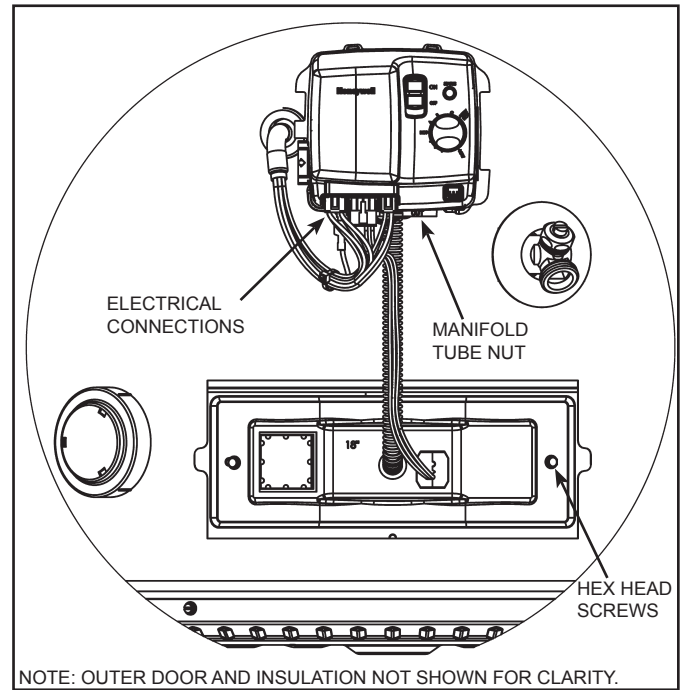
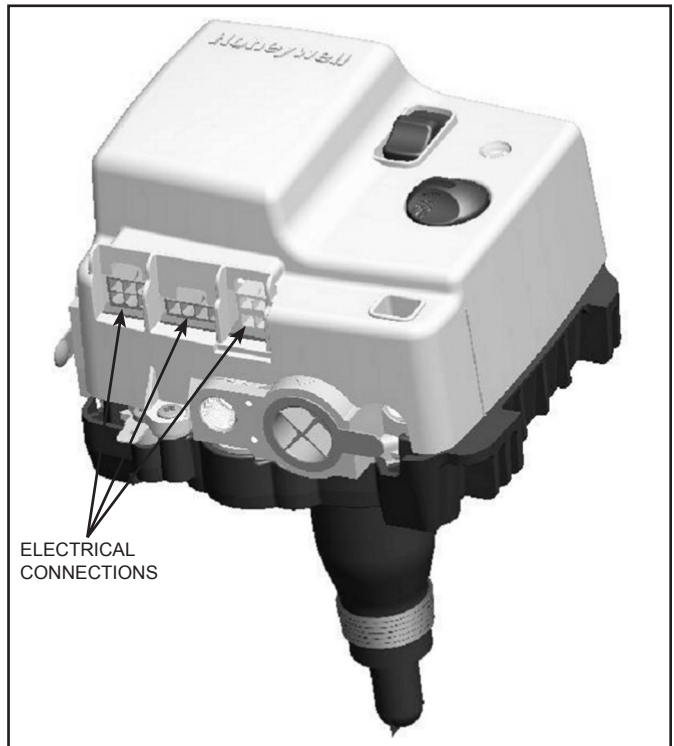
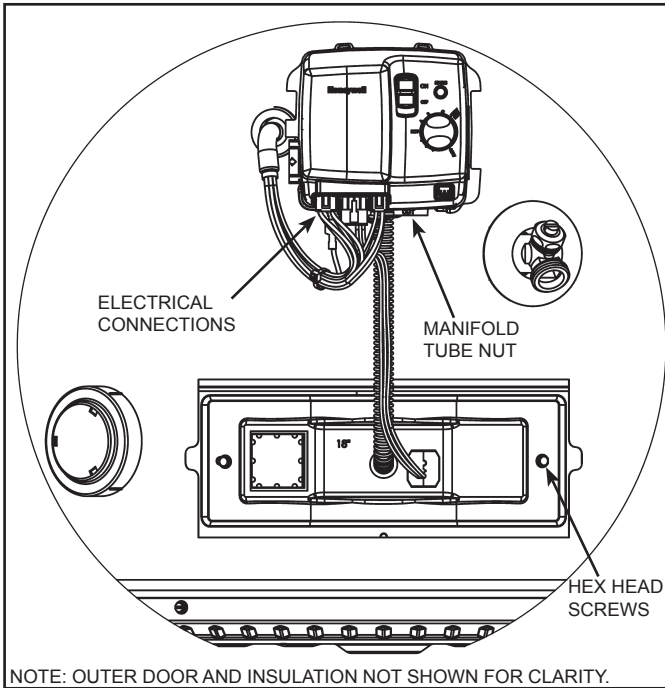

Figure 7. Electrical Connections at the Bottom of the Gas Valve
Figure 10. Electrical Connections on the Gas Valve
Figure 15. Electrical Connections at the Bottom of the Gas Valve
5. Unplug all the electrical connections from the bottom of the gas control valve/thermostat. See *Figure 7*.
6. Using a 3/4" open end wrench remove the manifold tube from the gas control valve/thermostat (turning counter-clockwise for natural gas, clockwise for LP). Grasp the manifold tube and push down slightly to free the manifold tube from the gas control valve/thermostat. See *Figure 7*.
8. Use a 1/4" nut-driver or 1/4" socket & ratchet to loosen the 2 hex head screws on the inner door so the inner door/manifold/burner assembly can be removed. See *Figure 7*.
2. After confirming no materials of any type are between door gasket and combustion chamber shield, align the screws on the inner door with the screw holes on the combustion chamber and tighten with 1/4" nut-driver or 1/4" socket & ratchet. See *Figure 7*.
**Note:** Do Not apply any thread sealant at this connection). To prevent any cross threading the manifold tube should be started by hand (turn clockwise for natural gas, counter-clockwise for LP). Upon tightening with the fingers and confirming it has not been cross threaded, tighten nut with a 3/4" open end wrench. See *Figure 7* (page 8).
- Reconnect all the electrical connections to the bottom of the gas control valve/thermostat, gently pushing each connector up until it snaps into place. See *Figure 7* and *Figure 10*.
- Reconnect all the electrical connections to the bottom of the gas control valve/thermostat, gently pushing each connector up until it snaps into place. See *Figure 10* and *Figure 11* (page 12).
5. Unplug all the electrical connections from the bottom of the gas control valve/thermostat. See *Figure 15* (page 14).
6. Using a 3/4" open end wrench remove the manifold tube from the gas control valve/thermostat (turning counter-clockwise for natural gas, clockwise for LP). Grasp the manifold tube and push down slightly to free the manifold tube from the gas control valve/thermostat. See *Figure 15* (page 14).
8. Use a 1/4" nut-driver or 1/4" socket & ratchet to loosen the 2 hex head screws on the inner door so the inner door/manifold/burner assembly can be removed. See *Figure 15* (page 14).
2. After confirming no materials of any type are between door gasket and combustion chamber shield, align the screws on the inner door with the screw holes on the combustion chamber and tighten with 1/4" nut-driver or 1/4" socket & ratchet. See *Figure 15* (page 14).
**Note:** Do Not apply any thread sealant at this connection). To prevent any cross threading the manifold tube should be started by hand (turn clockwise for natural gas, counter-clockwise for LP). Upon tightening with the fingers and confirming it has not been cross threaded, tighten nut with a 3/4" open end wrench. See *Figure 15* (page 14).
- Reconnect all the electrical connections to the bottom of the gas control valve/thermostat, gently pushing each connector up until it snaps into place. See *Figure 10* (page 10) and *Figure 15* (page 14).
5. Unplug all the electrical connections from the bottom of the gas control valve/thermostat. See **Figure 15** (page 14).
6. Using a 3/4" open end wrench remove the manifold tube from the gas control valve/thermostat (turning counter-clockwise for natural gas, clockwise for LP). Grasp the manifold tube and push down slightly to free the manifold tube from the gas control valve/thermostat. See **Figure 15** (page 14).
8. Use a 1/4" nut-driver or 1/4" socket & ratchet to loosen the 2 hex head screws on the inner door so the inner door/manifold/burner assembly can be removed. See **Figure 15** (page 14).
- After confirming no materials of any type are between door gasket and combustion chamber shield, align the screws on the inner door with the screw holes on the combustion chamber and tighten with 1/4" nut-driver or 1/4" socket & ratchet. See **Figure 15** (page 14).
**Note:** **Do Not** apply any thread sealant at this connection). To prevent any cross threading the manifold tube should be started by hand. (Turn clockwise for natural gas, counter-clockwise for LP.) Upon tightening with the fingers and confirming it has not been cross threaded, tighten nut with an 3/4" open end wrench. See **Figure 15** (page 14).
- Reconnect all the electrical connections to the bottom of the gas control valve/thermostat, gently pushing each connector up until it snaps into place. See **Figure 10** and **Figure 15**).
5. Reconnect all the electrical connections to the bottom of the gas control valve/thermostat, gently pushing each connector up until it snaps into place. See *Figure 10* (page 10) and *Figure 15* (page 14).